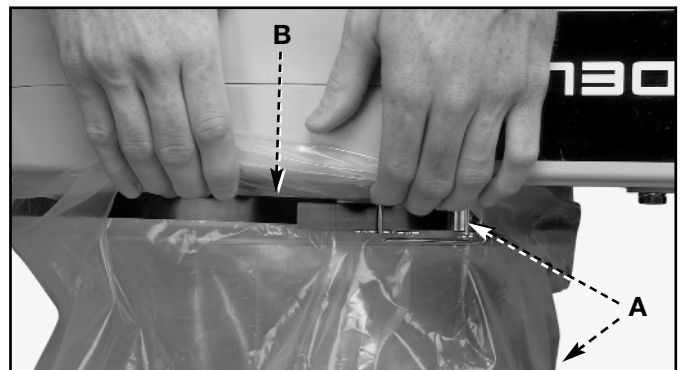

Fig. 10A
2. Place the clamp and plastic bag assembly (A) Fig. 10A and fasten clamp securely as shown.